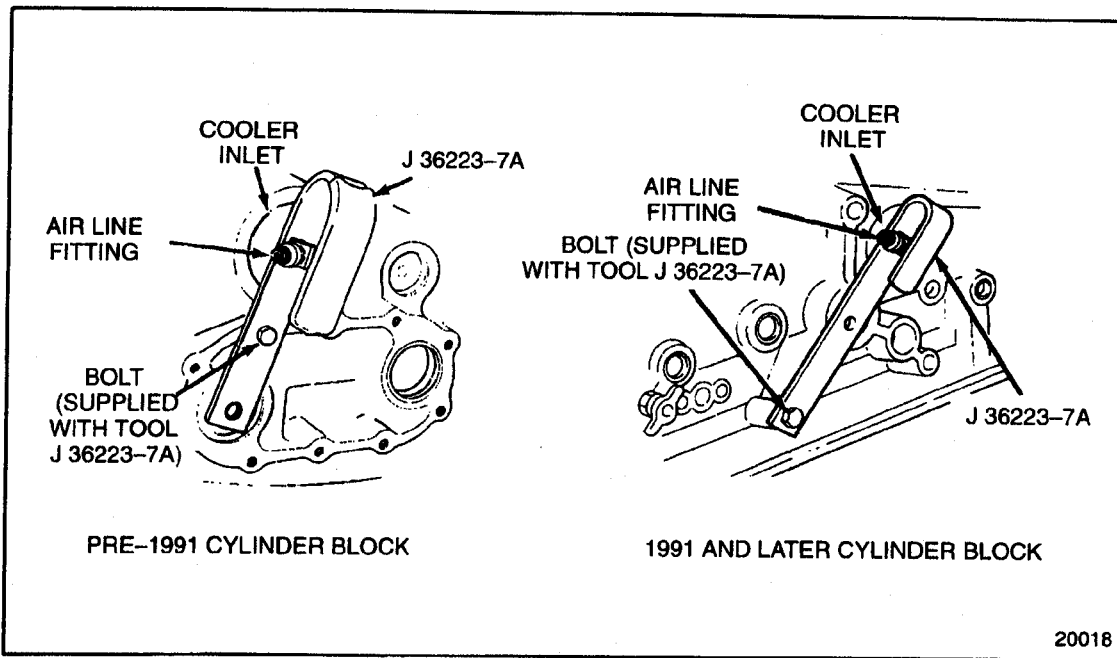

Figure 1-11 Water Inlet Cover Plate Installation
5. Install the water inlet cover plate, J 36223-7A, part of J 36223-D. See Figure 1-11. Use the bolt supplied with the tool to secure it to the cylinder block.
6. Install the water inlet cover plate, J 36223-7A part of J 36223-D. See Figure 1-11. Use the bolt supplied with the tool to secure it to the cylinder block.